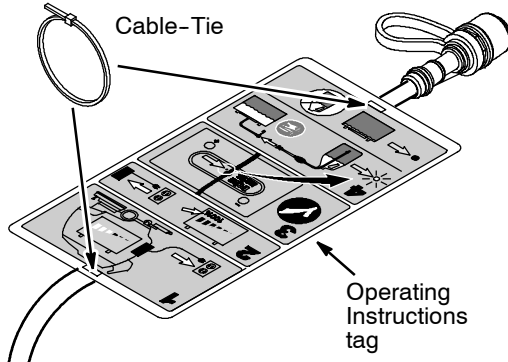

Fig. 4
6. Attach the Operating Instructions tag to the end of battery water tube with two cable ties as shown (Figure 4).